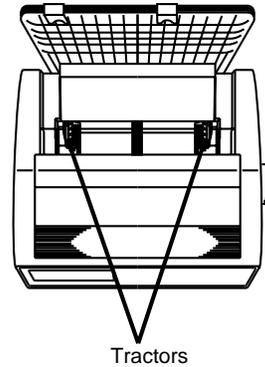

Figure 6-10. Model 602 Paper Tractors
- 11.4. Locate the tractors. See Figure 6-10.